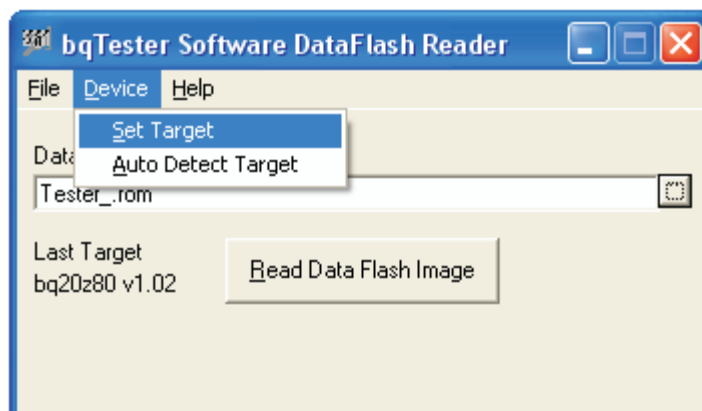

Figure 19. Data Flash Reader Screen
4. Run the Data Flash reading software in the bqTester suite by double-clicking the TesterDFReader icon. The Data Flash reader screen appears as shown in Figure 19.